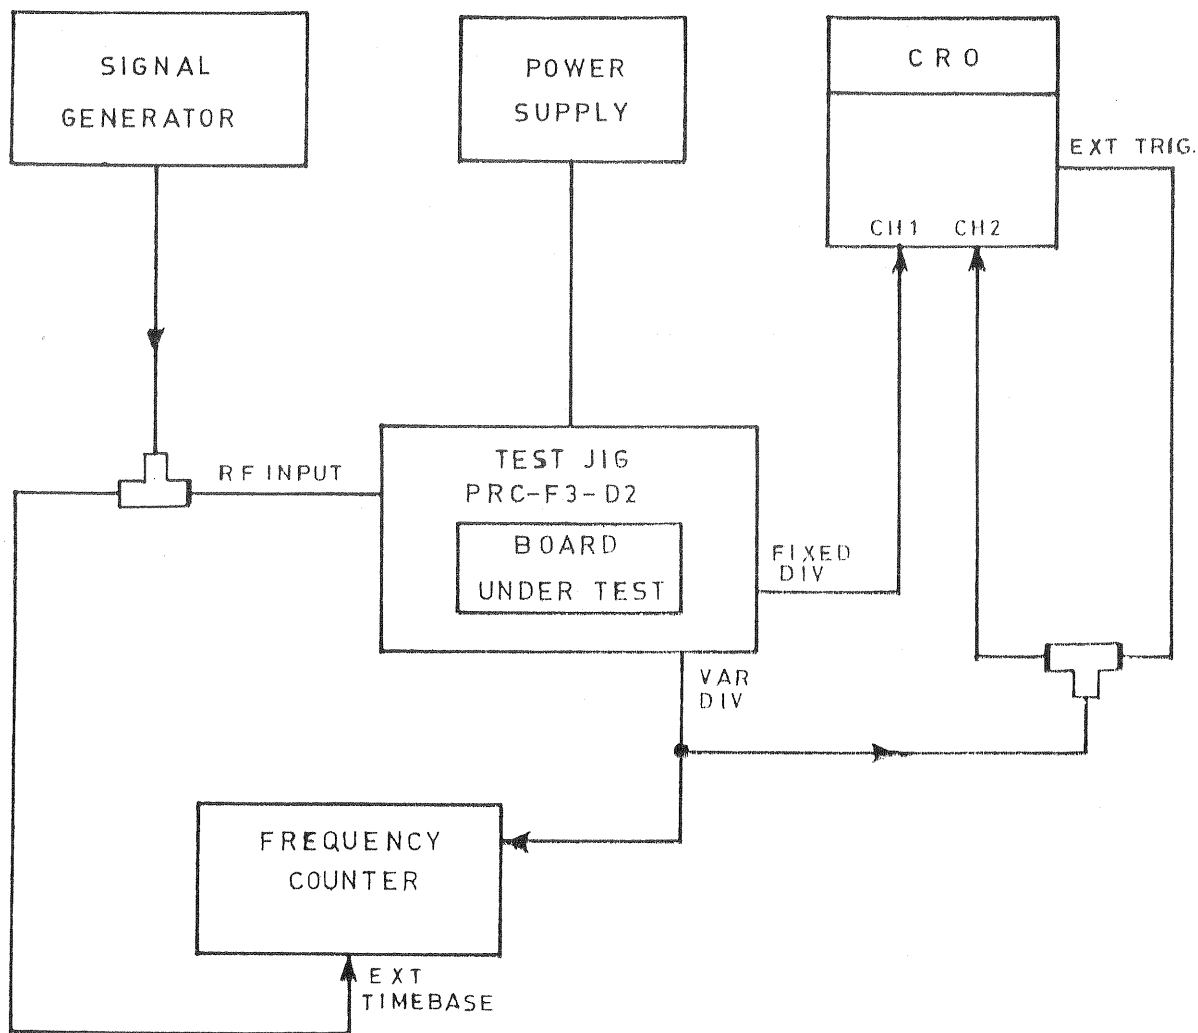

FIG 4 — FREQUENCY DIVIDER BOARD TEST SET UP
- c. **Fig 4.** Shows PCB interconnections.
**36. Frequency Division and Supply Voltage Check (See Fig 4).**